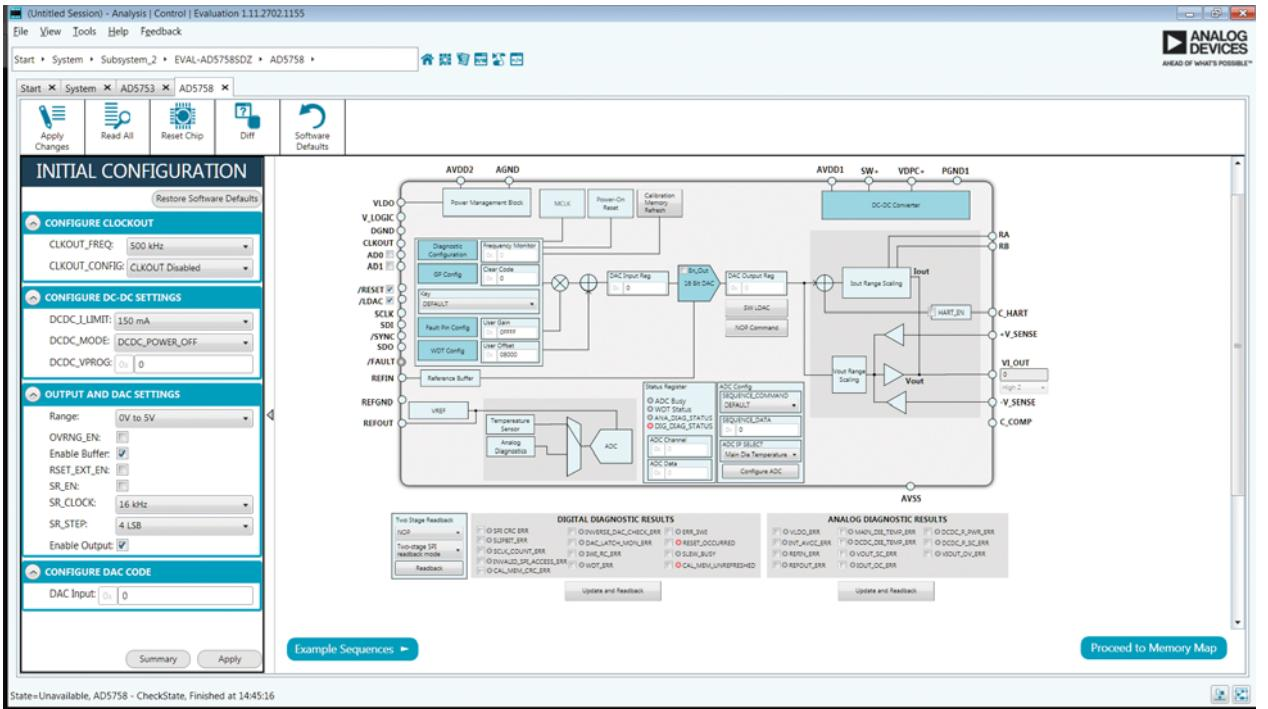

Figure 7. AD5758 Block Diagram in the ACE Software
7. Double-click EVAL-AD5758SDZ to open the AD5758 block diagram (see Figure 7). The **INITIAL CONFIGURATION** pane appears on the left side of the window. Several register settings can be configured in this pane and are written to the device in the appropriate order. The **DIG_DIAG_STATUS**, **RESET_OCCURRED**, and **CAL_MEM_UNREFRESHED** LED indicators in the window are illuminated red by default.